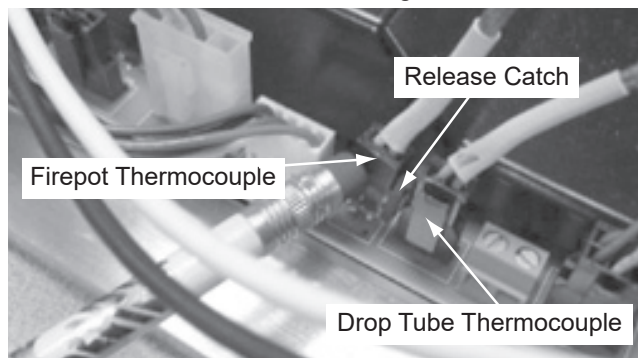

Figure 8
3. The thermocouple wires are connected to the control board. The wires need to be disconnected but extreme caution must be used when removing them. You may not have a visual of the control board and it must be done by feel. Review **Figure 8** for the location of the tabs for removing the wires.